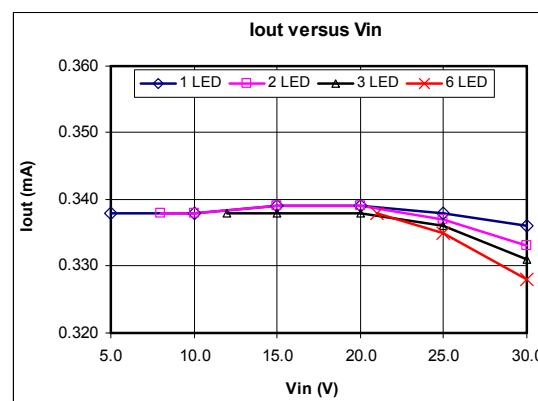

Fig. 5: Output Current vs Input Voltage
- Place the bypass capacitors C4 and C5 as close as possible to the XRP7603 IC. See figure 5 for details.